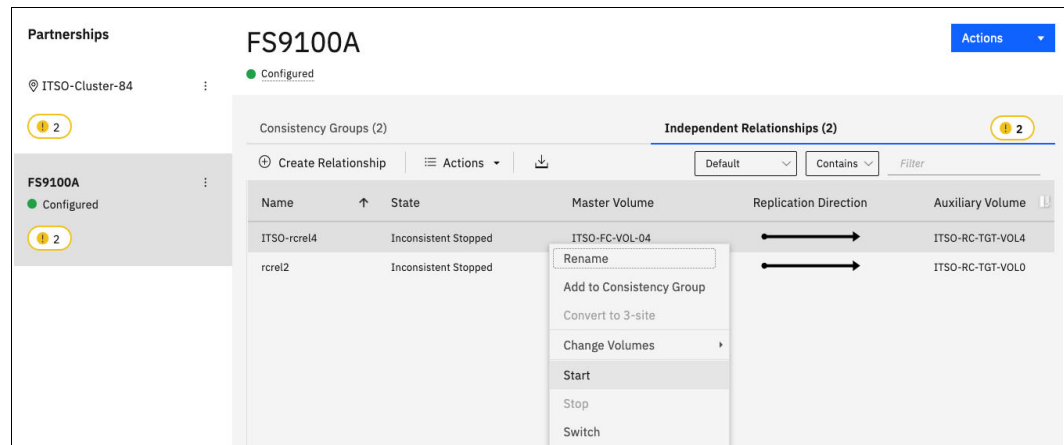

Figure 10-134 Starting Remote Copy relationships
- Select the target RC system and go to the **Independent Relationships** tab. Next, right-click the relationships to be started and select **Start**, as shown in Figure 10-134.